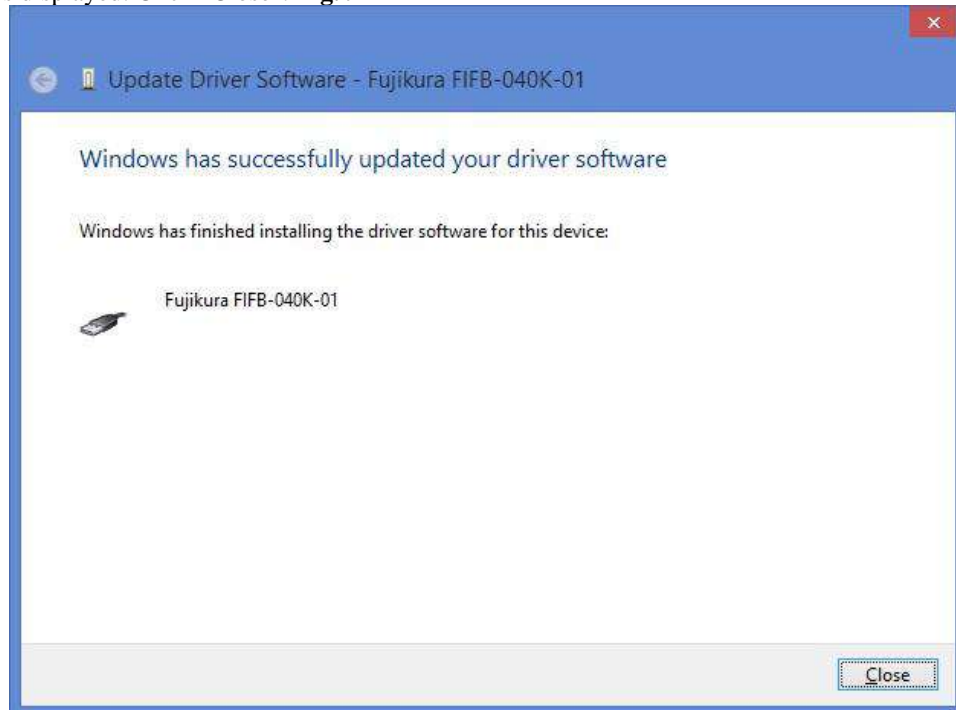

Figure 9
16. After it gets updated, "Windows has finished installing the driver software for this device" message is displayed. Click "Close". **Fig. 9**